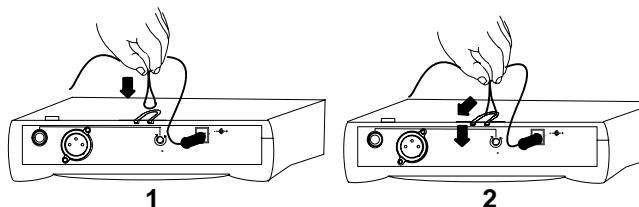

FIGURE 7. POWER CABLE RETAINER
2. Loop the power cable around the cable retainer on the bottom of the receiver. See Figure 7.